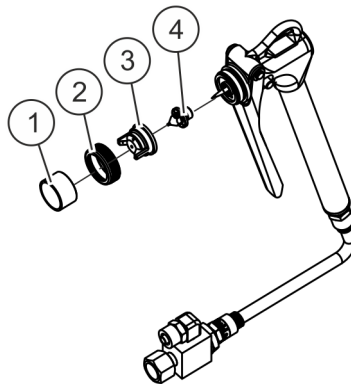

Fig. 8: Replacing the material nozzle
- 1.**  Remove the protective cap (Fig. 8/1).
- 2.**  Unscrew the cap nut (Fig. 8/2).
- 3.**  Remove the air nozzle (Fig. 8/3) and material nozzle (Fig. 8/4) or unscrew them.